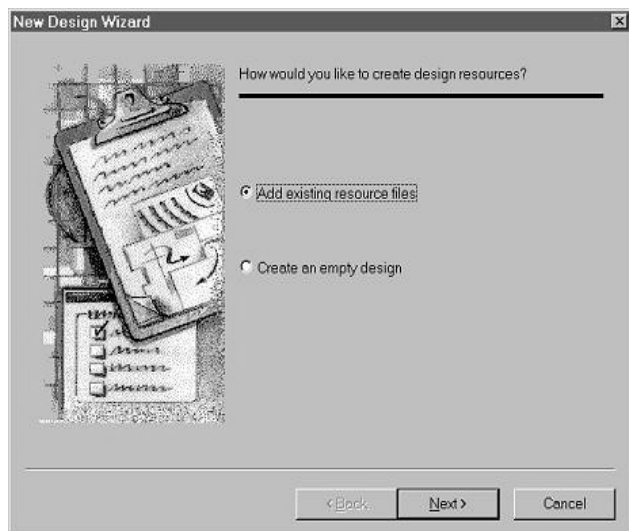

Figure 1. Creating a New Design in *Warp Enterprise/Professional*.
1. Upon entering *Warp Enterprise/Professional*, the user is required to create a new design. Go to "File -> New Design..." to obtain Figure 1.
3. Specify the target device by clicking on the '**Device**' picture in Figure 1 to select a device.